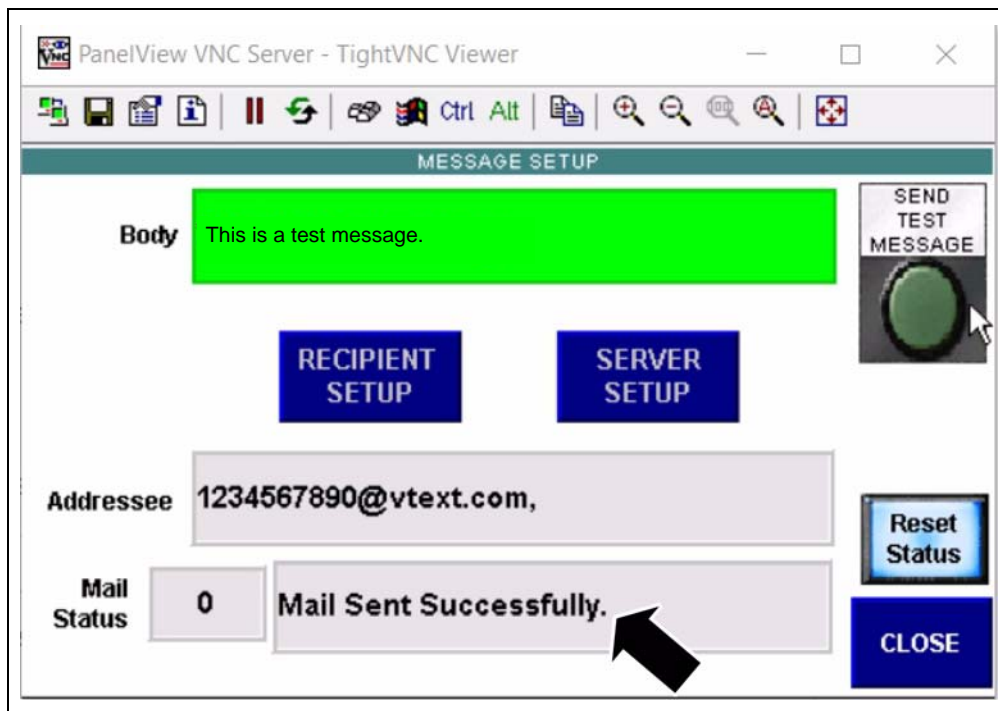

Figure 5F
6. Is successful, you should have the message below. (See Figure 5F.)